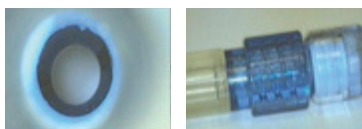
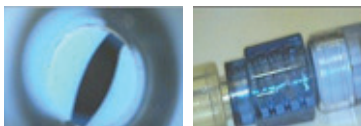

Fig. 1: Fully open valve
Fig. 2: Partially open valve
- The valve works properly when it is fully opened. Full opening is only achieved by pushing the valve by full advancement of male slip of a luer (as shown in Figure 1).
- In blood lines with short slip luer, the screwing of the male luer lock may prevent full advancement of the slip inside the female valve and as a result the valve is not fully opened and creates a sort of resistance to flow rate and hence low flow and high pressure are noted ( as shown in Figure 2). , to solve the problem the male slip should be advanced and fully pushed inside the female valve before screwing the lock (as shown in Figure 1).